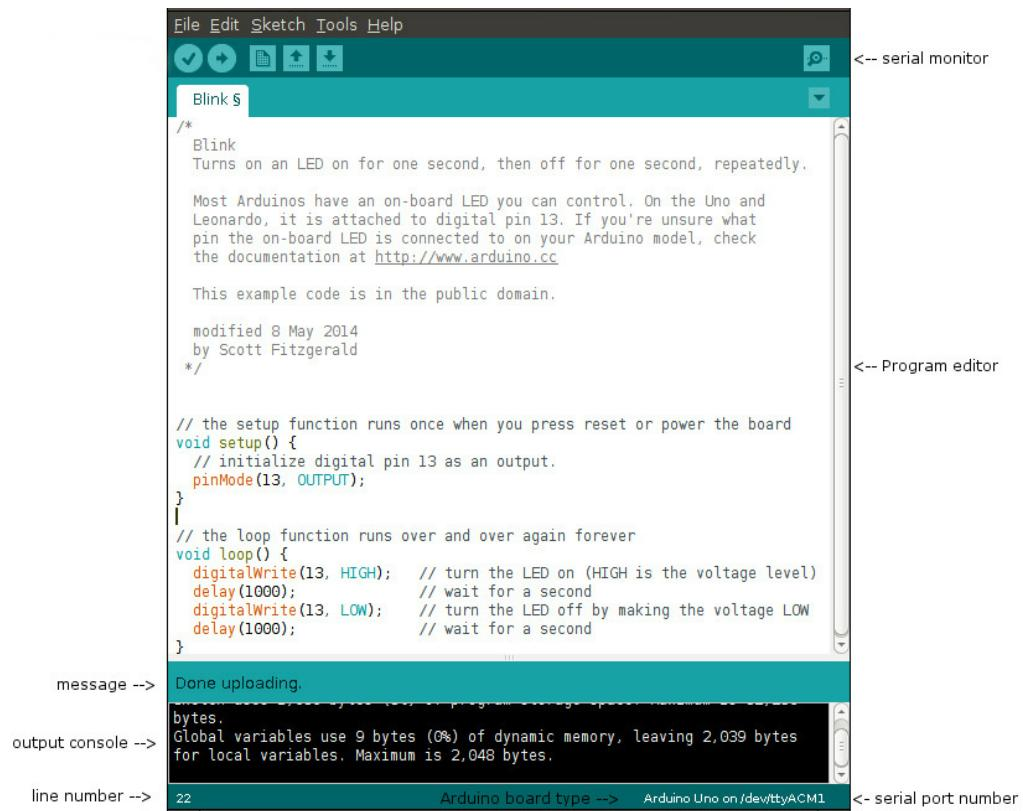

Figure 3.5: Arduino IDE
The Arduino development environment, as shown in Fig. 3.5, consists of a text editor for writing code, a message area, a text console, a toolbar with buttons for common functions, and a series of menus. It connects to the Arduino hardware to upload programs and communicate with them.
6. Serial Monitor: Opens the serial port window - the location of this is shown in the top right-hand corner of Fig. 3.5
Arduino Code 3.1 First 10 lines of the Arduino firmware. Available at `Origin/tools/arduino-firmware/arduino-firmware.ino`, see Footnote 2 on page 2. By following the steps given in sections 3.1.3 and 3.1.4, open this code in Arduino IDE and upload it to Arduino Uno. Once the upload is successful, you should expect a message in the bottom of Arduino IDE as shown in Fig. 3.5.